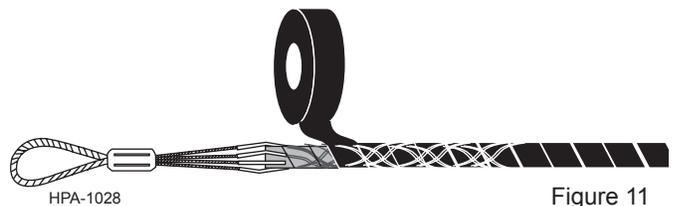

Figure 11
**4.10** Starting at least 2.5 cm (1.0 in.) below the mesh on the cable jacket, wrap vinyl tape TIGHTLY to the top of the grip. The mesh's imprint should show clearly through the tape (Figure 11).